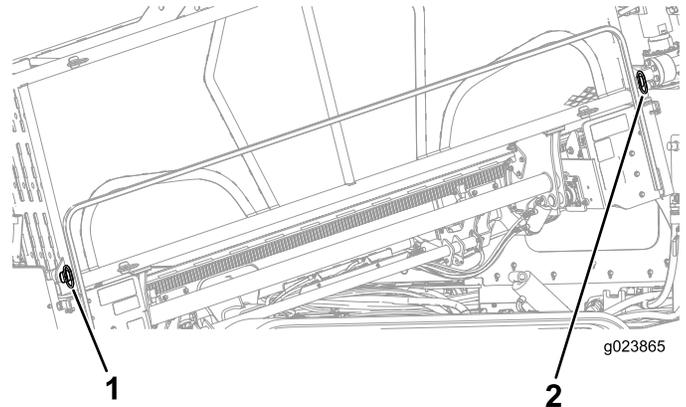

Figure 60
2. Remove the lower, outer pins on the pipe holder (Figure 60).